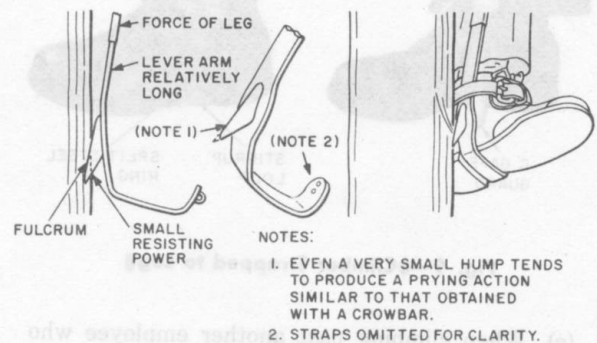

**Fig. 10—Gaff Profile and Point**
**5.05** Figure 10 illustrates the surfaces, ridge, and point of a properly shaped gaff. **The ridge of the gaff is straight.** Note that the point of the gaff is rounded to meet the ridge.